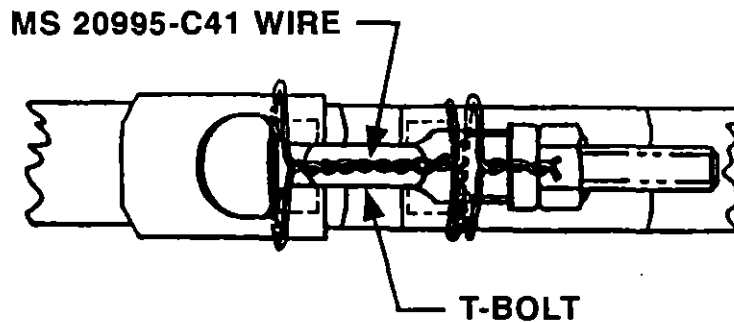

Figure 8A-6a. Lockwiring of V-band Couplings
- a. Position turbo unit with gaskets on exhaust inlet and outlet ducts and secure with "V" band couplings. Lockwire the "V" band couplings as shown in Figure 8A-6a.